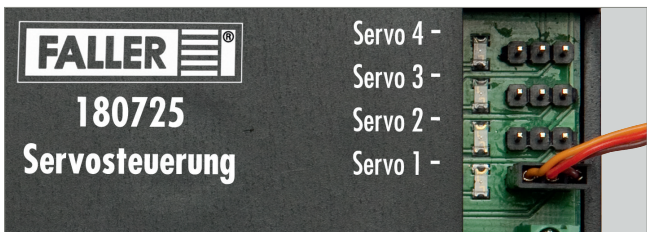

Fig. 4: Connecting servos
- ▶ Connect one or several servos to one or several of the »Servo 1« to »Servo 4« ports on the Servo Control, see Fig. 4.